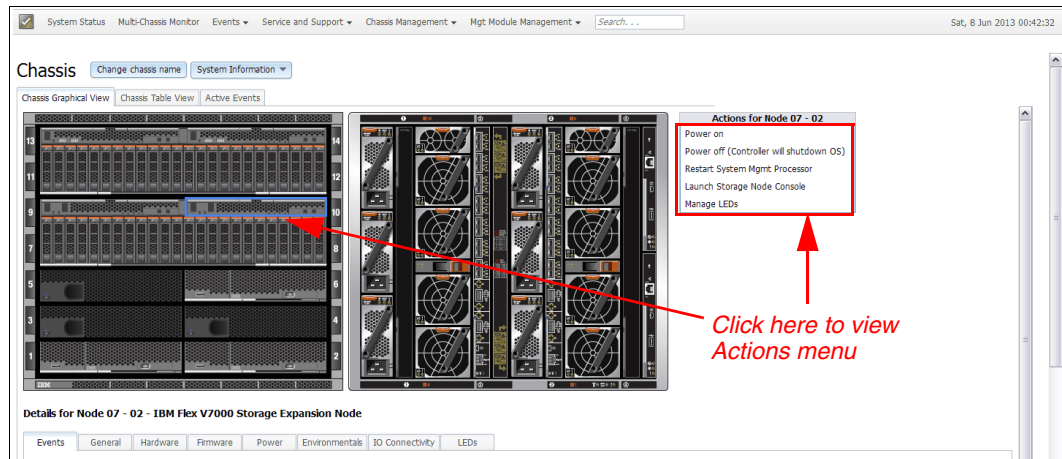

Figure 13-53 CMM actions for Expansion canister
3. Power on expansion enclosures before control enclosures, as shown in Figure 13-53.